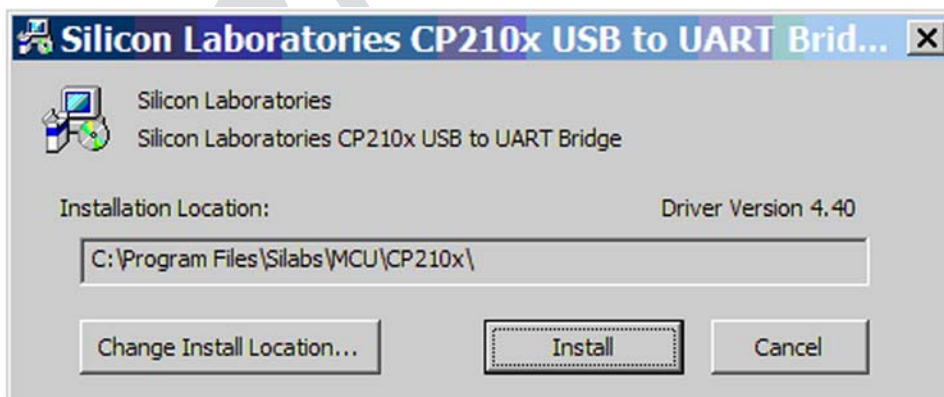

FIGURE 2
2. Select "USB Driver" to install the USB driver on you computer needed to operate the RFID Tag Writer Computer Interface. Follow the instructions on the screen. See FIGURE 2.